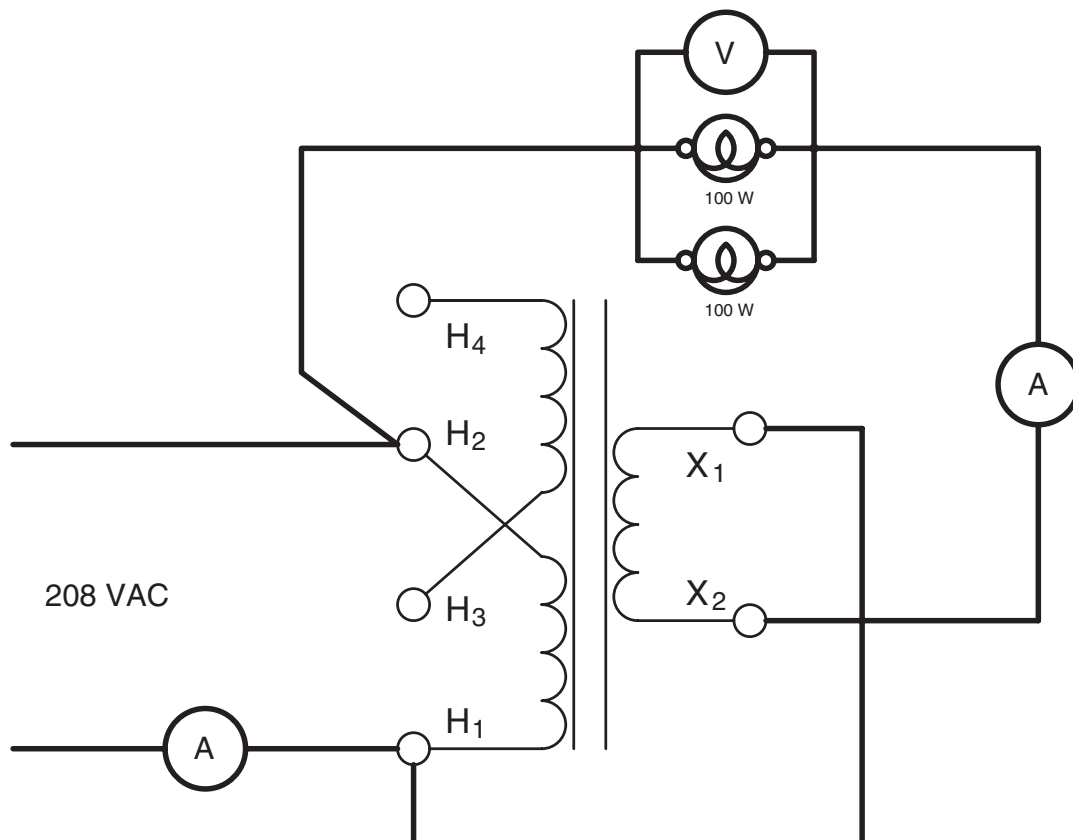

Figure 21-17 Adding load to the transformer.
30. Connect another 100 watt lamp in parallel with the first as shown in Figure 21-17. Reconnect the AC ammeter in series with the secondary winding if necessary.